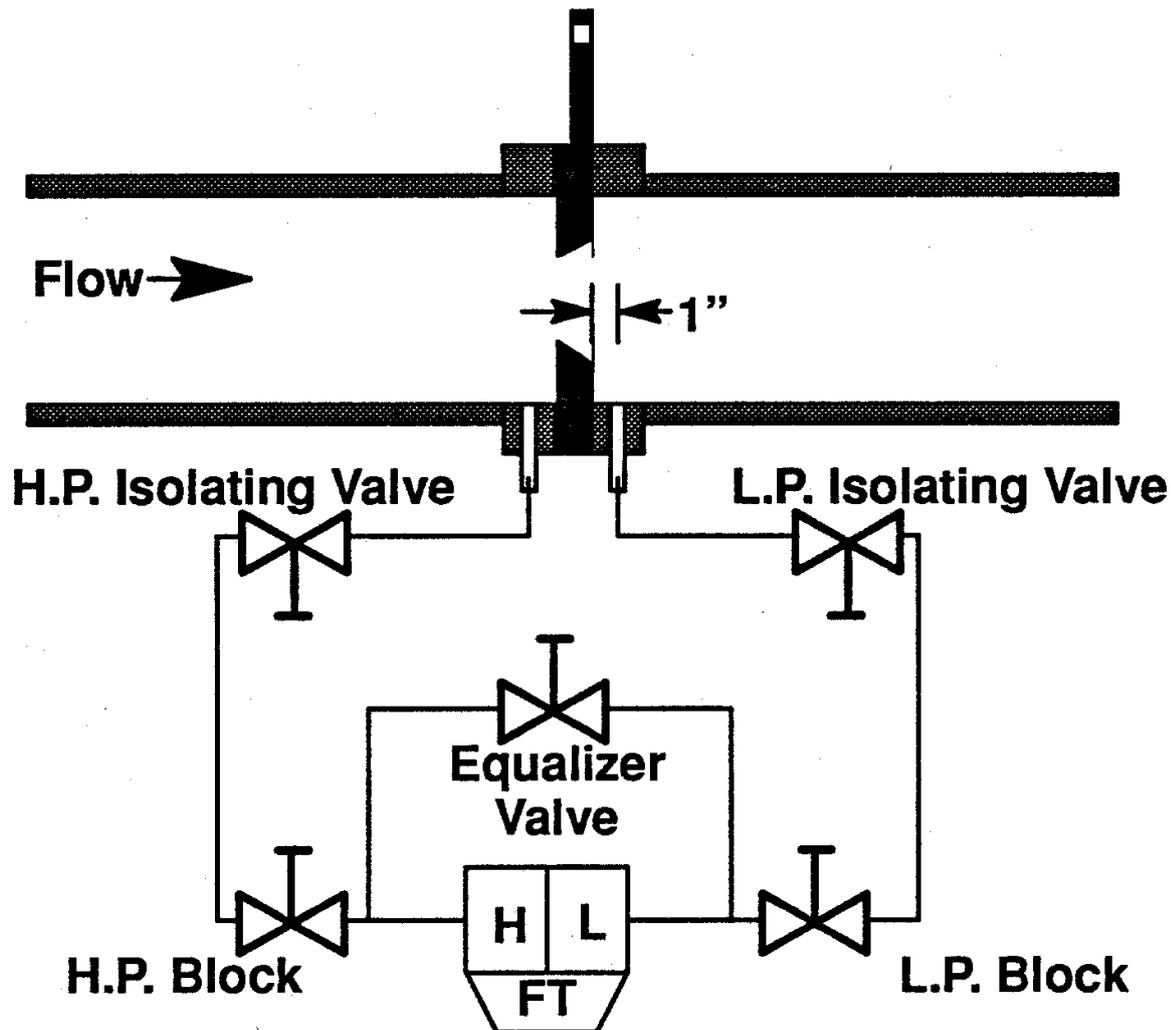

Figure 4: Orifice Plate with Flange Taps and 3 Valve Manifold.
- A typical flange tap installation is shown in Figure 4.
- The upstream (H) and downstream (L) sides of the orifice plate are connected to the high pressure and low pressure sides of a d/P transmitter.